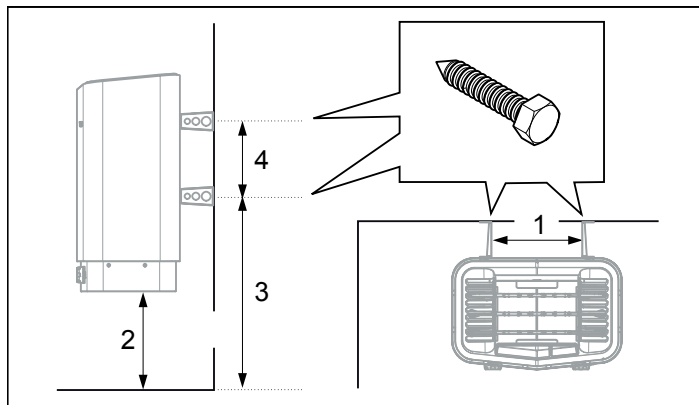

Figure 8: Dimensioning
6. Position the bracket screws according to the specified dimensioning see Figure 8.